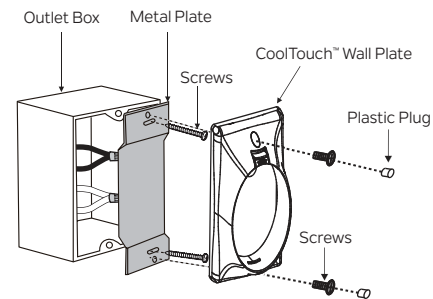

Fig. 29
**Step 4.** Install the metal plate and the CoolTouch™ wall plate to the existing wall outlet box with the screws provided. Insert the two plastic plugs into the wall plate. (Fig. 29)